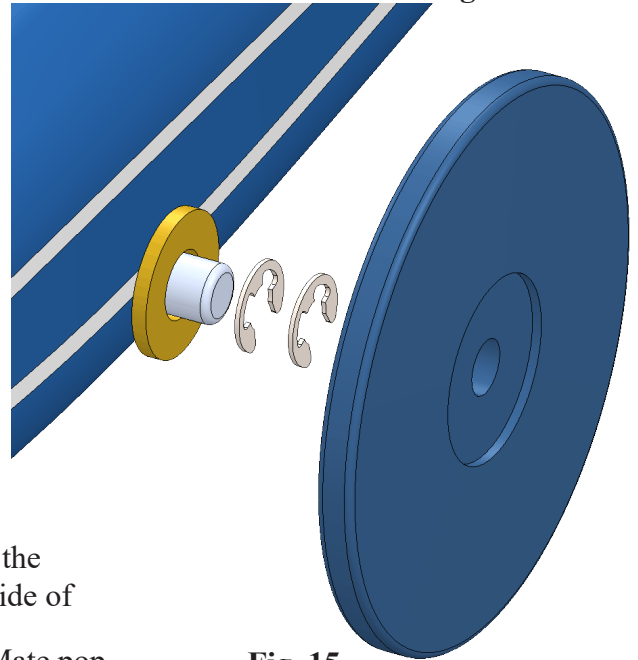

Fig. 15
Step 2. Drag Wheel and E-Clips slightly off Axle, **Fig. 15**.